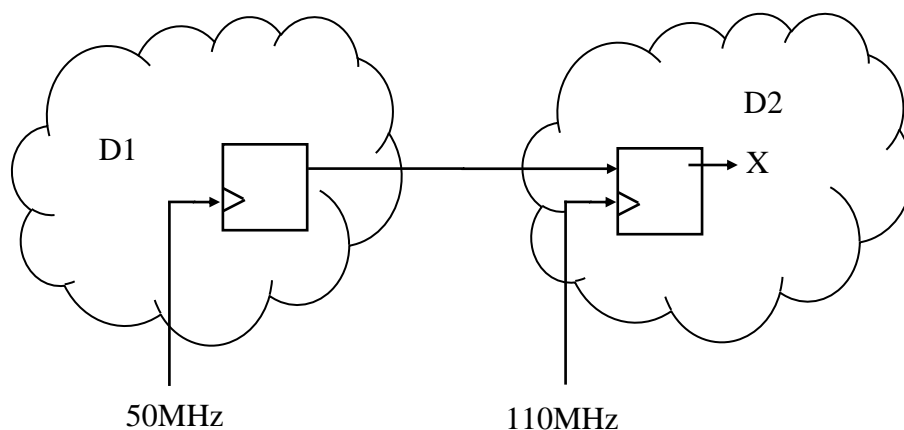

Figure A2: Transfer of Signal Between Clock Domains
- How is a *master-slave* D-type flip-flop organised. Draw a transistor-level schematic, identifying the function of each part. (4)
- What is the constraint on the clock used for a *master-slave* D-type flip-flop? Draw a schematic for a non-overlapping clock generator. (4)
- One of the problems that can occur with a flip-flop is *metastability*. What is *metastability* and what is the solution to minimise its occurrence. (2)
- A system consists of two separate clock domains (D1, and D2). Data from D1 is being transferred to D2, as shown in Figure A2. (4)